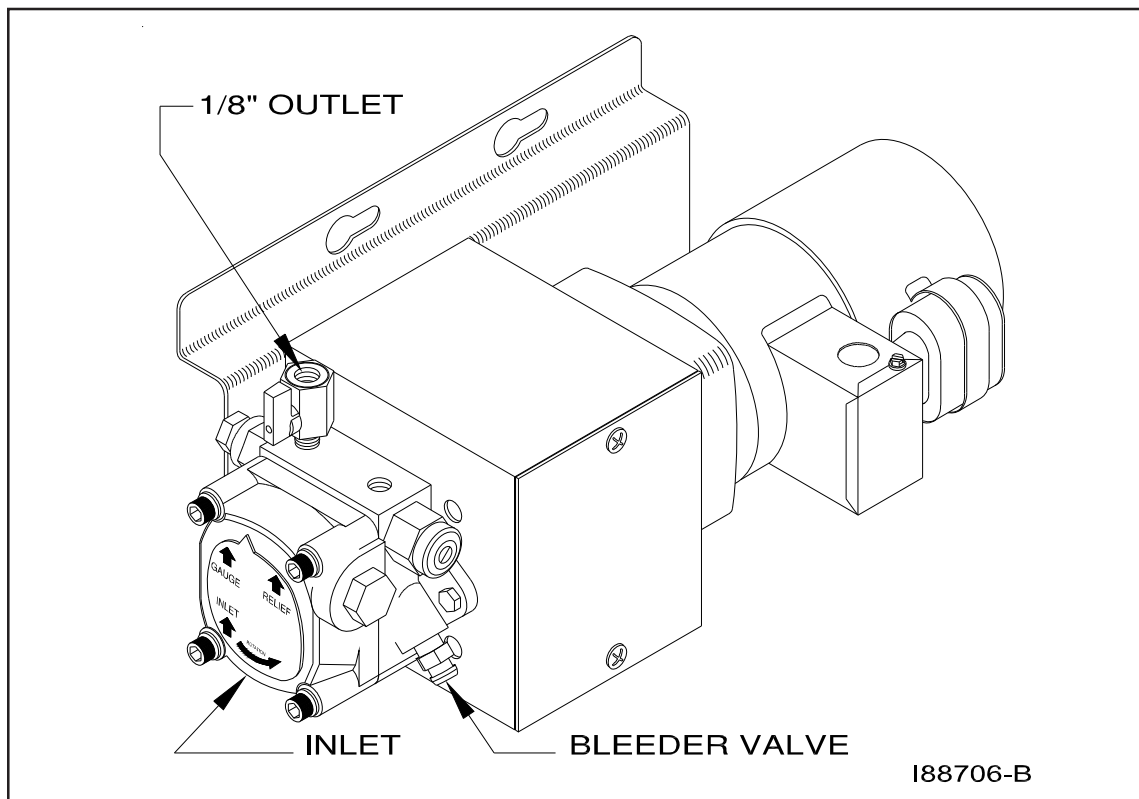

Figure 4G - Standard (Recommended) Vertical Mounting of the Metering Pump
Before starting installation of the metering pump, review Figures 4G, 4H, and 4I to become familiar with the metering pump components. You will also need to accomplish the following activities:
1. Refer to Figures 4G, 4H, and 4I. Note that the metering pump is shipped with the pump head already positioned for vertical wall mounting.